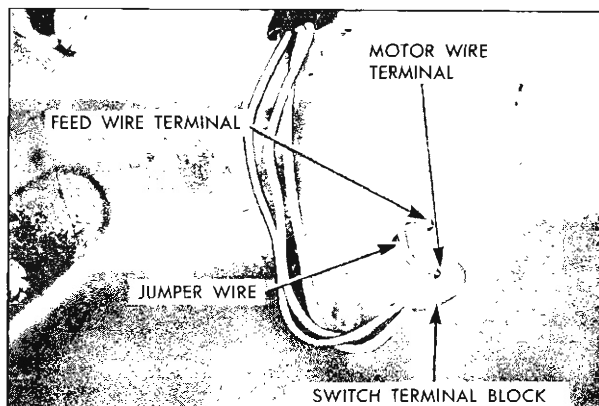

Fig. 9-4 Checking Window Control Switch
1. Insert one end of a #12 gauge jumper wire to the switch feed terminal and the other end to one of the motor lead terminals in the switch block. Repeat this check on the remaining motor lead terminal Fig. 9-4.
2. Insert one end of a #12 gauge jumper wire to the switch feed terminal and the other end to one of the motor lead terminals in the switch block Fig. 9-4.